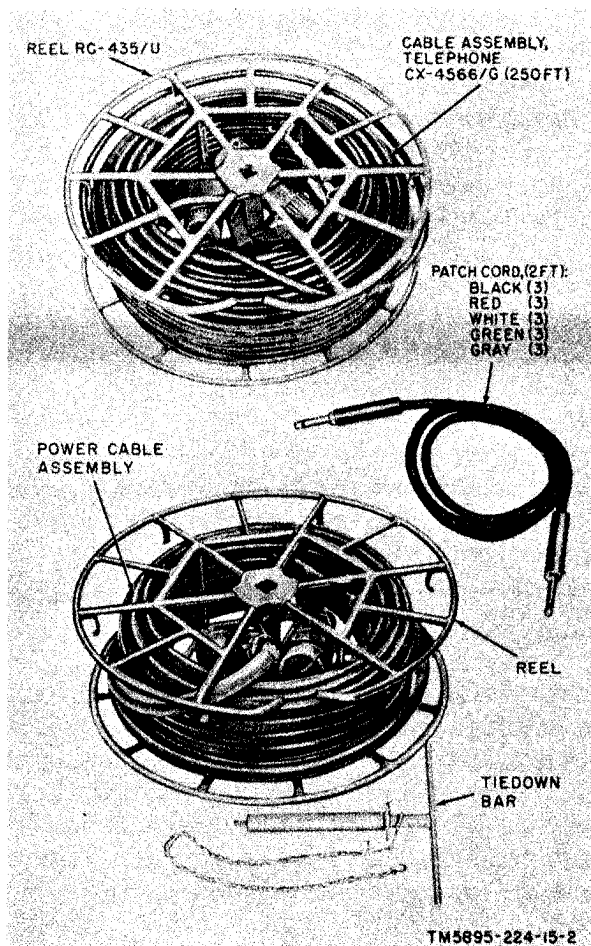

Figure 3. Shelter, Electrical Equipment, S-184/MS-32, cable assemblies, reels, and patch cords.
- (1) Power cable assembly and reel (fig. 3). The power cable assembly is wound on a reel, which is secured to the floor at the front of the shelter (fig. 7 and 15). It is a 100-foot, 3-conductor cable with a watertight power connector on each end.
- (3) *Cable Assembly, Telephone CX-4566/G and Reel RC-485/U* (fig. 3). The CX-4566/G is 250-feet long and is equipped with a 26-pair cable connector on each end.
- (6) *Patch cords* (fig. 3). The patch cords are two-conductor cords, equipped with telephone plugs at each end.